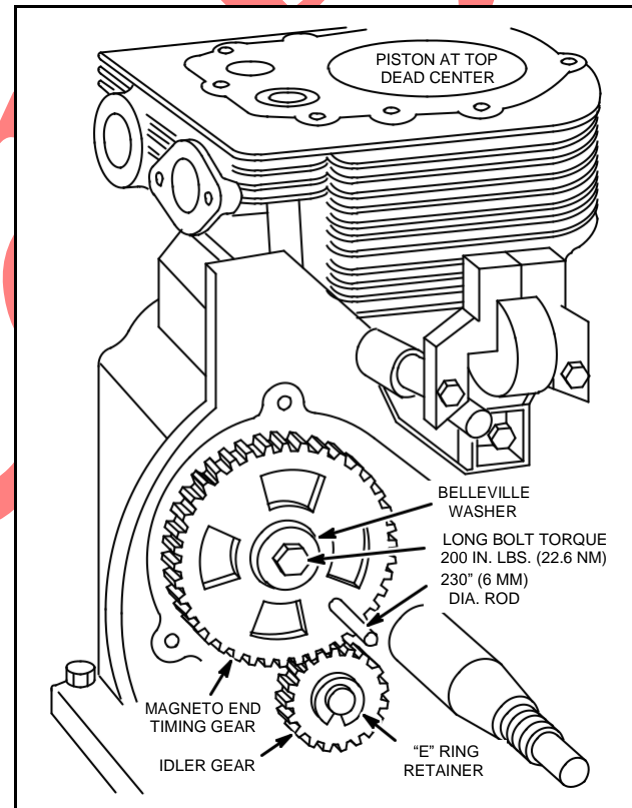

Fig. 183 - INSTALLING AND TIMING MAGNETO DRIVE GEAR
5. Install bolt with Belleville washer, finger tight, Fig. 183.
6. To time drive gears, insert short pieces of 1/4" (6 mm) rod through 1/4" (6 mm) holes in drive gears, and into locating holes in crankshaft bearing support plates, Fig. 183.